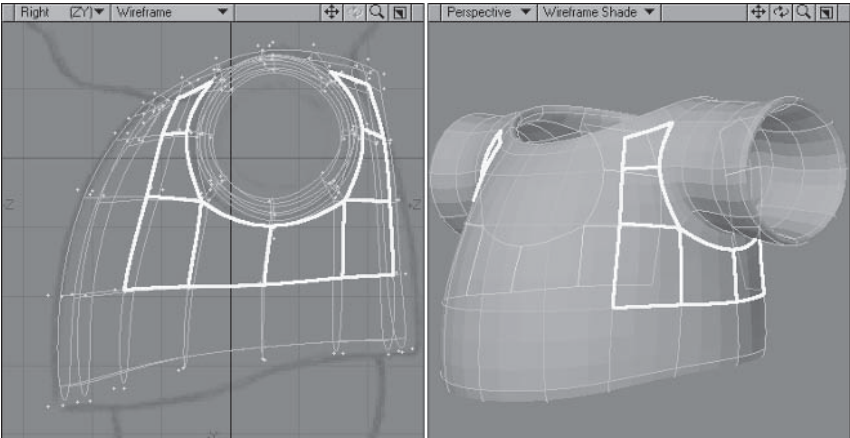

Figure 5.5-36. These polygons will have a fold through them.
- 1. Select the outside polygons of the shirt shown in Figure 5.5-36.